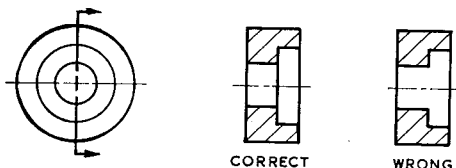

FIG. 32
*Outlines:* Everything which is seen when looking on the cut face must be shown (see Figs. 32 and 33).